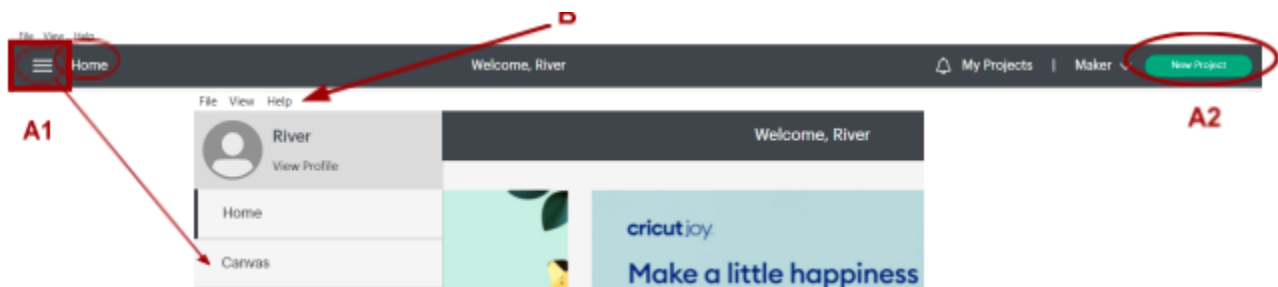

Figure 18
- Open the dropdown menu located in the top, left corner of the Home screen and select Canvas and start a new design project (Figure 18 A1)
- Click the New Project button in the top, right corner of the Home screen to open a new Canvas (Figure 18, A2)